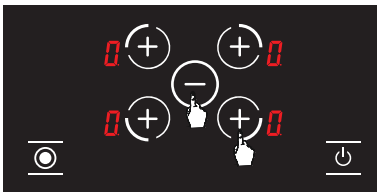

Figure 23
2. At the same time, press the right front burner selection button **+** (see fig. 23), and you will hear a short warning signal. Then take your fingers off the hob's control panel **-**.